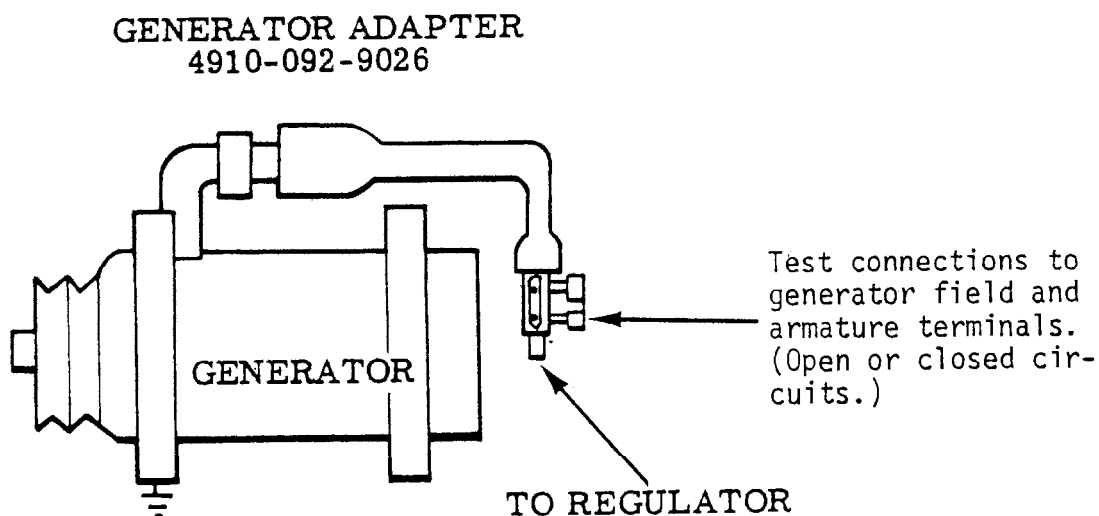

FIGURE 1.
2. Reconnect generator cable to free end of generator adapter. (See Figure 1.)